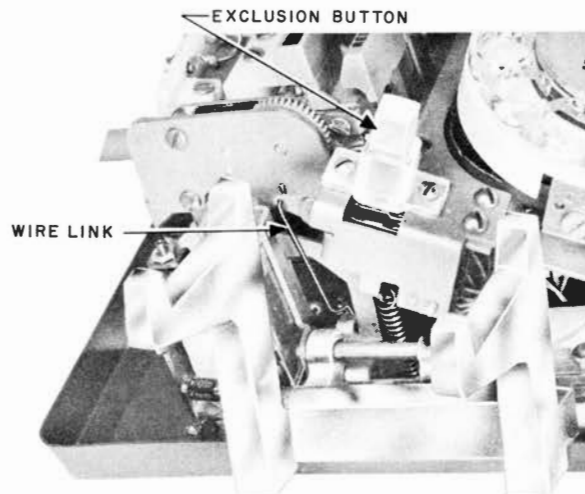

Fig. 3 - Exclusion Switch
6. On sets with exclusion, start wire link from exclusion switch into hole on switchhook assembly. (See Fig. 3.)
2. Attach exclusion switch assembly to dial adapter with two screws provided. (See Fig. 3.)
4. Connect wire link to exclusion switch assembly by placing end of wire link having two 90-degree bends into hole provided in switch assembly. (See Fig. 3.) Link should be started from left side of assembly.